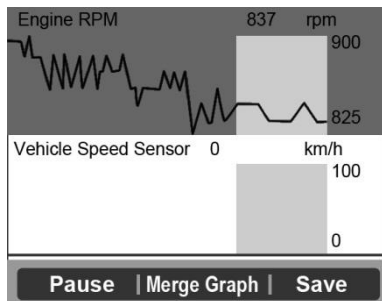

Figure 5.13
- If the “**Merge Graph**” on the bottom appears when a PID is selected to view, merged graph information is available (*Figure 5.13*).